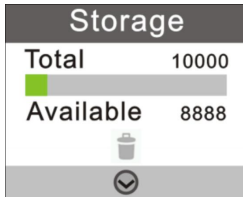

Fig 3.13 Storage Capacity
- Press < **Right** > key to check the storage capacity of the Biolum detector, as shown in Figure 3.13;